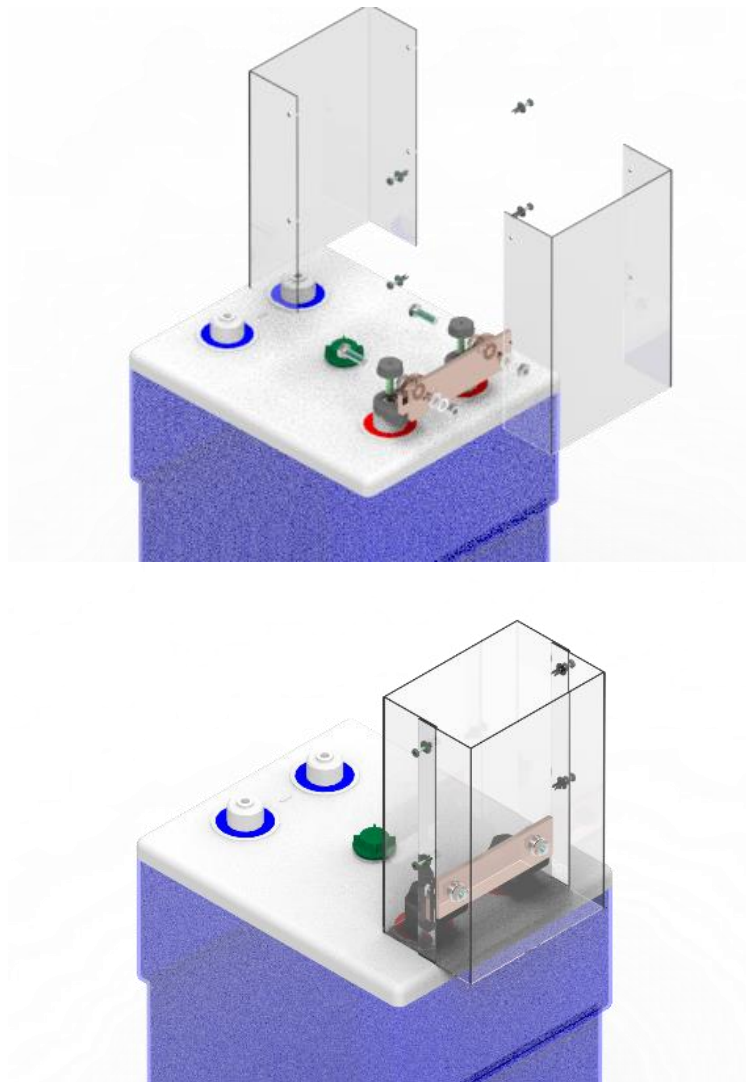

Figure 6.6.7-1 - Mounting the terminal plate to the end terminals of the battery
There are a total of 11 different types of connection plates (cf. Figure 6.6.7-1). Connection plates are always used when cables must be connected to cells with several battery terminals.
1. Screw the connection bracket onto the end terminals of the battery (cf. Figure 6.6.7-1).